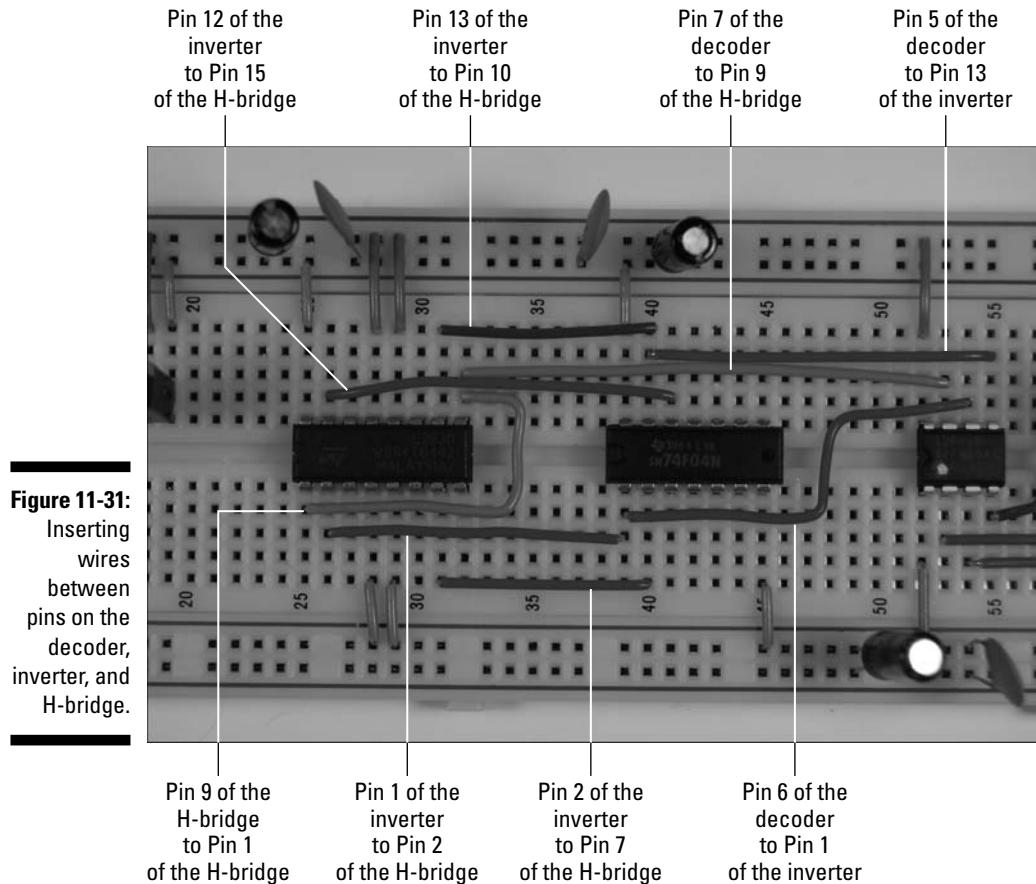

Figure 11-31:
8. Insert wires to connect the decoder, inverter, and H-bridge, as shown in Figure 11-31.